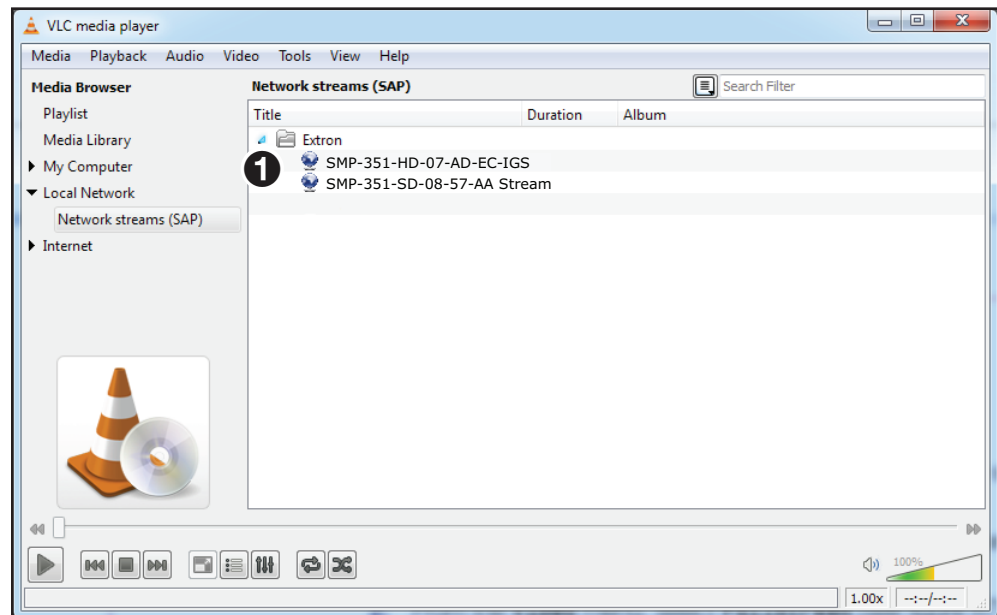

Figure 73. VLC - Select a Stream
4. VLC populates the playlist with all streams that contain SAP information. If a folder is shown, open it to view the SAP streams inside (see figure 73, ①).